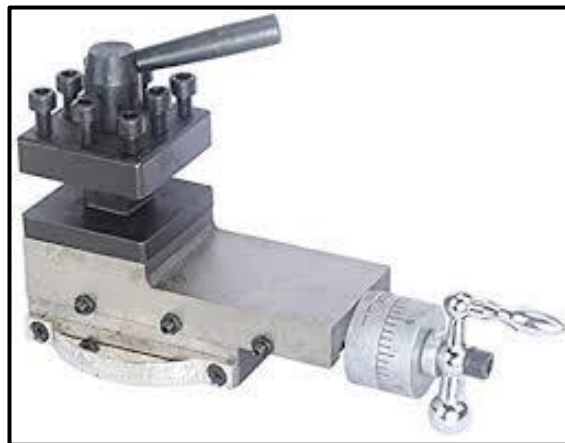

FIGURE 4.1
4.1 Identify the lathe component in FIGURE 4.1 below.